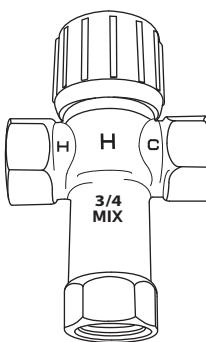

Figure 7 - Thermostatic Mixing Valves installed at each point-of-use can help prevent scalding.
- Point-of-use Thermostatic Mixing Valves (see Figure 7 on page 8).
Install Thermostatic Mixing Valves (Figure 7) to regulate the temperature of the water supplied to each point-of-use (for example, kitchen sink, bathroom sink, bath, shower). Consult the valve manufacturer's instructions or a qualified person.
**⚠ WARNING!** Even if the water heater thermostat is set to a relatively low temperature, hot water can scald. **Install Thermostatic Mixing Valves at each point-of-use to reduce the risk of scalding (see page 4 and Figure 7).**